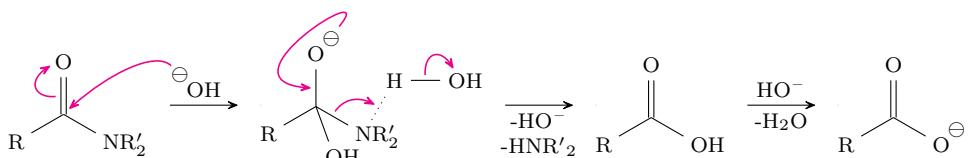

Figure 4.39: Amide hydrolysis mechanism (basic).
- Driving force under basic conditions (Figure 4.39): The formation of a (very stable) carboxylate.